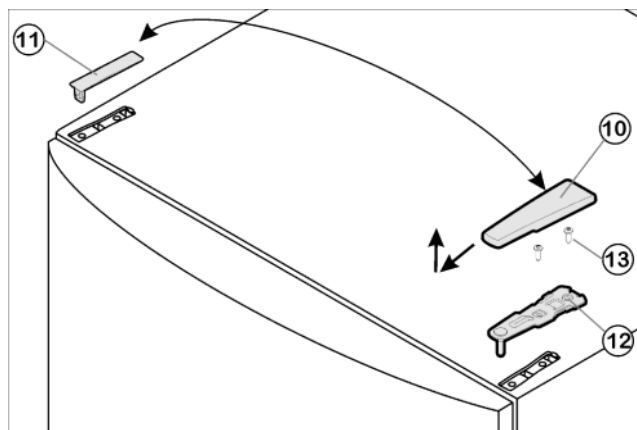

Fig. 6
- Pull off the cover Fig. 6 (10) forwards and upwards.
- Lift off the cover Fig. 6 (11).
- Unscrew the upper turn hinge Fig. 6 (12)(2x Torx® 25) Fig. 6 (13) and raise it for removal.
- Insert the upper turn hinge Fig. 6 (12) in the door on the new hinge side.
- Screw the upper turn hinge Fig. 6 (12) firmly into place (with 4 Nm)(2x Torx® 25) Fig. 6 (13). Possibly make preliminary holes with a bradawl or use a cordless screwdriver.
- Snap the cover Fig. 6 (10) and cover Fig. 6 (11) into place at the opposite side.